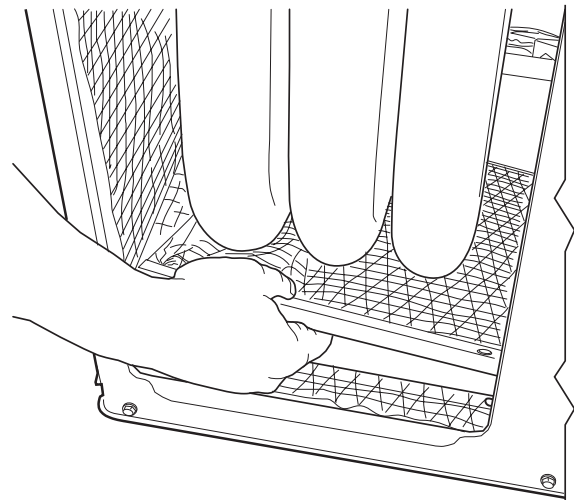
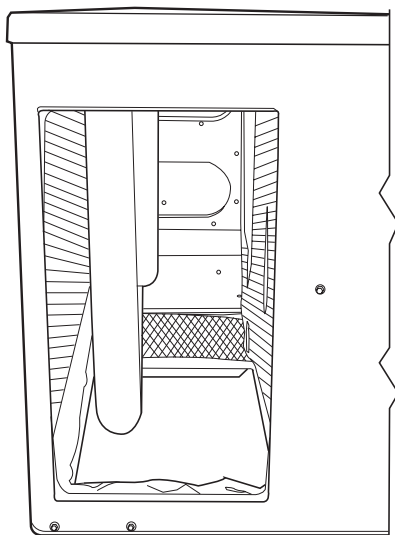

Fig. 15 — Removal of Vertical Discharge Opening Cover
Fig. 16 — Vertical Discharge Cover Removed
6. Remove and discard 2 screws which secure vertical discharge opening cover to basepan (Fig. 15). Slide cover forward to disengage, then tilt and remove cover through vertical discharge opening in bottom of unit. Discard duct cover (Fig. 16).